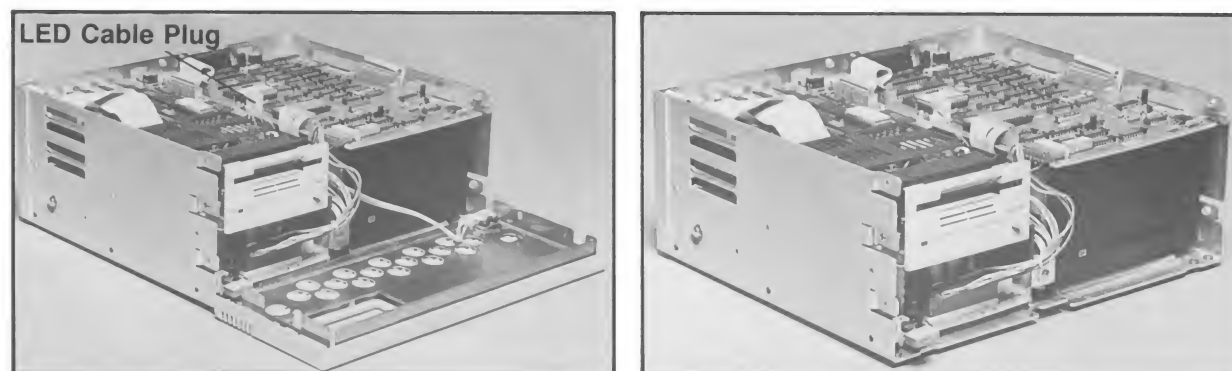

Figure 2-3. Front Panel Removal
1. Remove the four-pin LED cable plug from A1J8. See Figure 2-3.